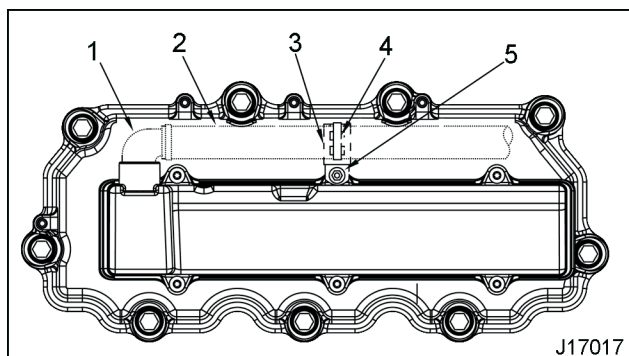
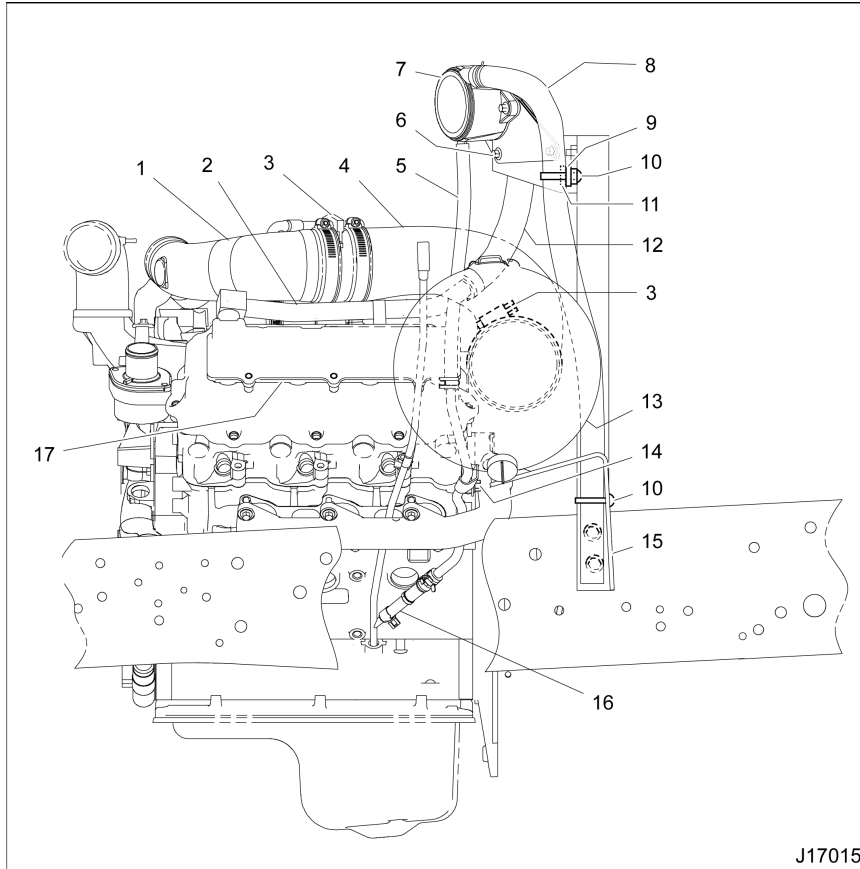

Figure 2 Crankcase Ventilation Hose Assembly Mounting
Figure 3 Impactor System
3. Remove the M6 hex nut from the upper center breather M6 x 43 x 15 stud bolt (Figure 2, Item 5). Remove and discard ladder clip (Figure 2, Item 3).
4. Remove the crankcase ventilation hose assembly (Figure 2, Item 2) by turning the elbow (Figure 2, Item 1) 90 degrees and pulling the crankcase ventilation hose assembly elbow out of the crankcase breather outlet. Remove the crankcase ventilation hose assembly from the engine.
Refer to Figure 3 for Items in parentheses.
4. Carefully remove the breather outlet steel tube (Figure 3, Item 2) and breather outlet elbow (Figure 2, Item 1) from the breather outlet by turning the steel tube 90 degrees and pulling the two parts apart. Discard the steel tube.
5. Remove the air inlet duct assembly (Figure 3, Item 1) from the MAF sensor. Disconnect boost control tubing. Remove and discard the air inlet duct assembly.
3. Install air cleaner (Figure 3, Item 13) and air cleaner duct (Figure 3, Item 4) unit.
5. Attach air inlet breather hose duct assembly to the MAF sensor (Figure 3, Item 3) with hose clamp. Tighten hose clamp to 4 to 5 N·m (36 to 48 lbf·in).